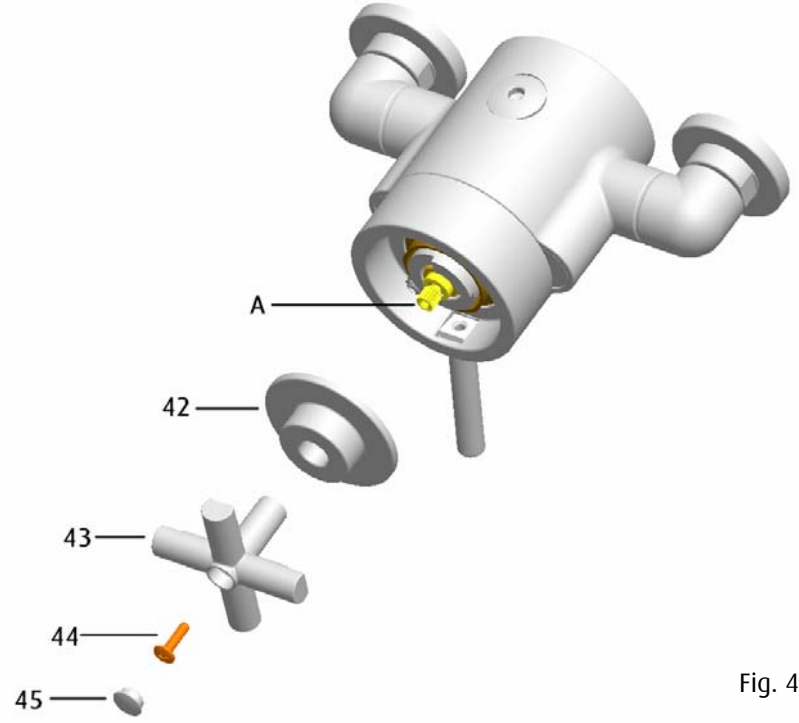

Fig. 4
5.4 See Fig. 4 below, remove the temperature control handle and shroud (43 & 42) by removing the cap (45), remove the screw (44) and pulling the handle and shroud (43 & 42) off the spindle (A).